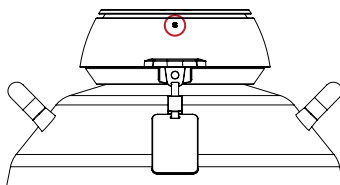

Figure 2-7 Emergency Key Slot
- 1) Insert the key into the emergency key slot as shown in Figure 2-7.